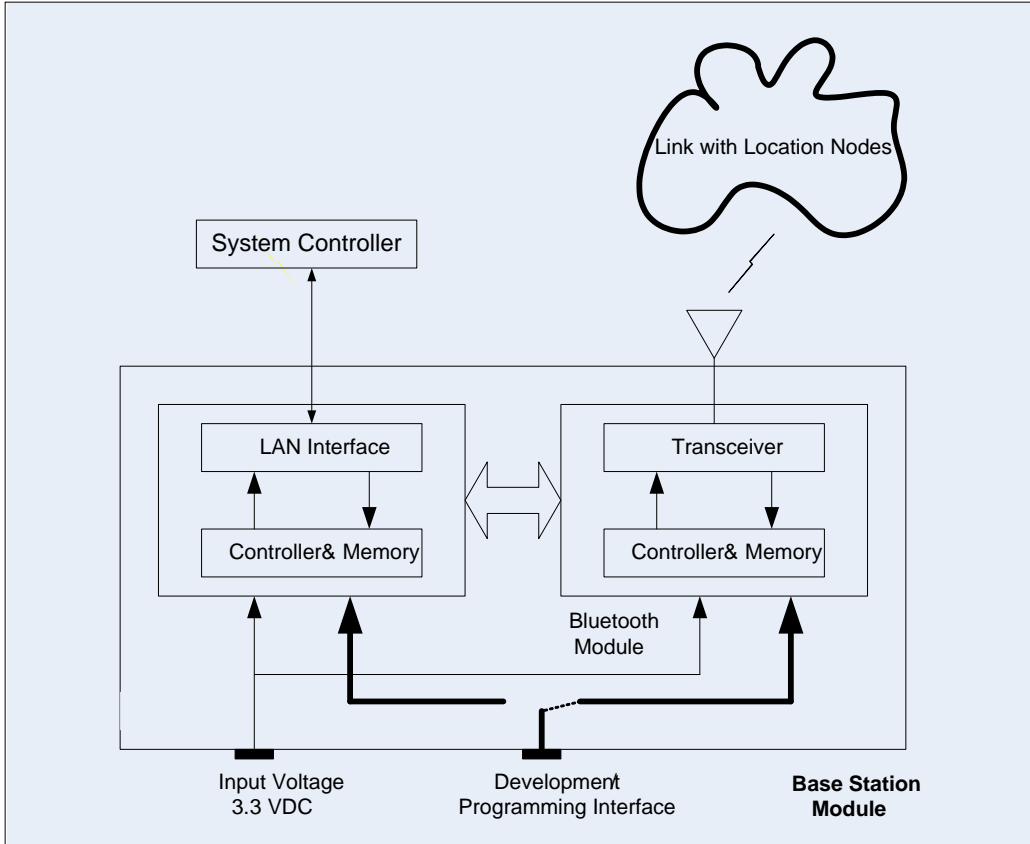

Figure 2. SiteWERX Base Station Block Diagram
- Figure 2. SiteWERX Base Station Block Diagram3**
The SBS consists of a Bluetooth Module for Bluetooth operations, a Bluetooth antenna, a LAN module, and Ethernet interface for communications with the SiteWERX System Controller. A functional block diagram of the SiteWERX Base Station is shown in Figure 2